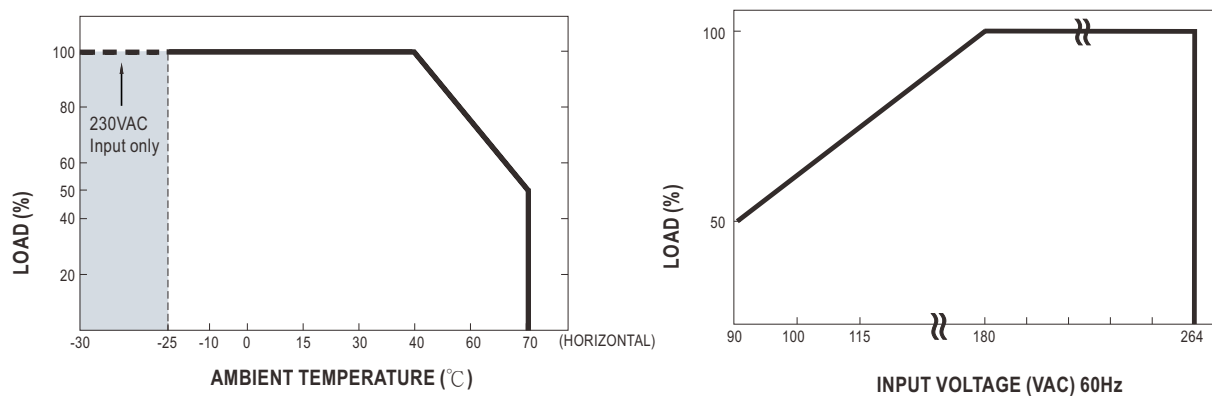

Figure 5-2 Output de-rating curves
- ☉ When DRP-3200/DBR-3200 units are operating at a lower AC input voltage, these units will de-rate their output current automatically to protect themselves, shown as Figure 5-2.